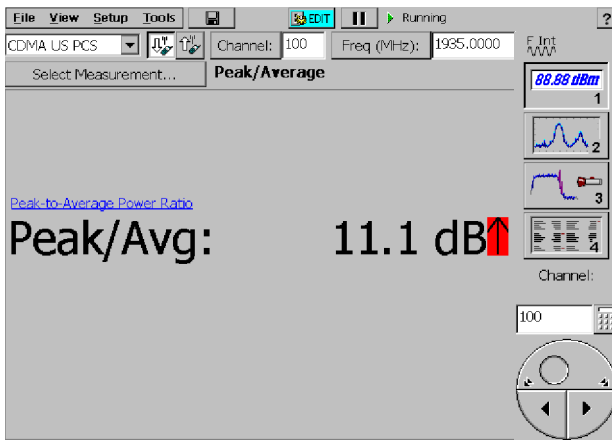

Figure 3-42: A typical Peak to Average Power Ratio display
4. Tap **Peak/Average**. See Figure 3-42.